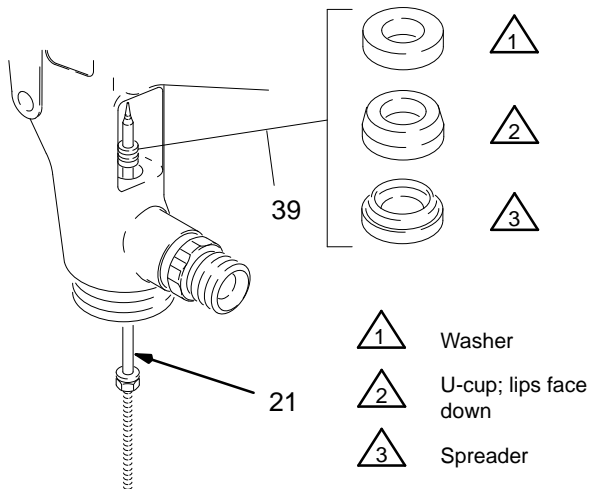

Fig. 35 _____ 02763
1. Insert the fluid needle (21) through the front of the gun as shown in Fig. 35. Install the new packing assembly (39) by placing them on the end of the needle tip. Orientate the packings as shown in Fig. 35.